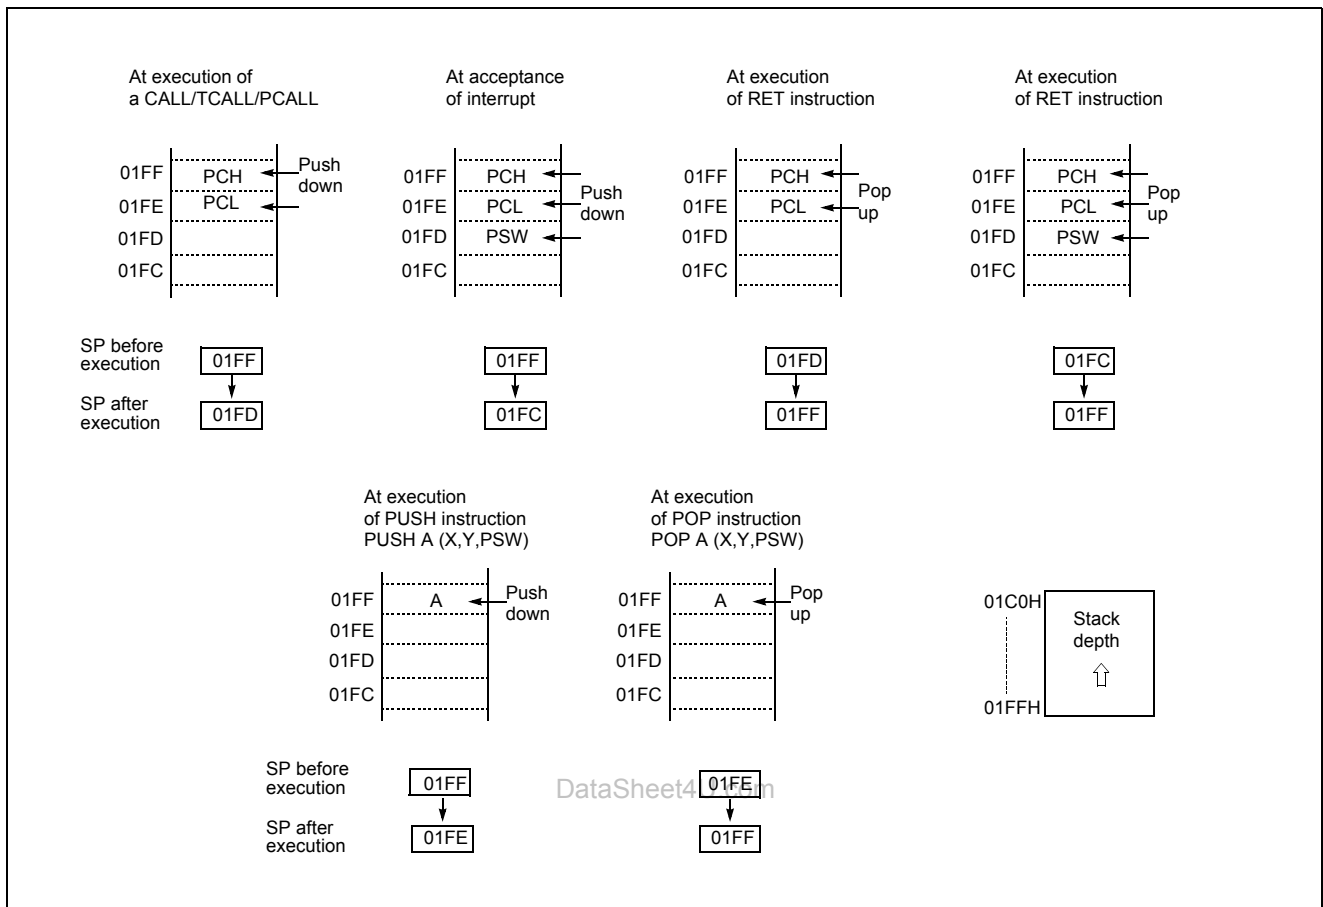

Figure 8-4 Stack Operation
The save/restore locations in the stack are determined by the stack pointed (SP). The SP is automatically decreased after the saving, and increased before the restoring. This means the value of the SP indicates the stack location number for the next save. Refer to Figure 8-4 on page 18.